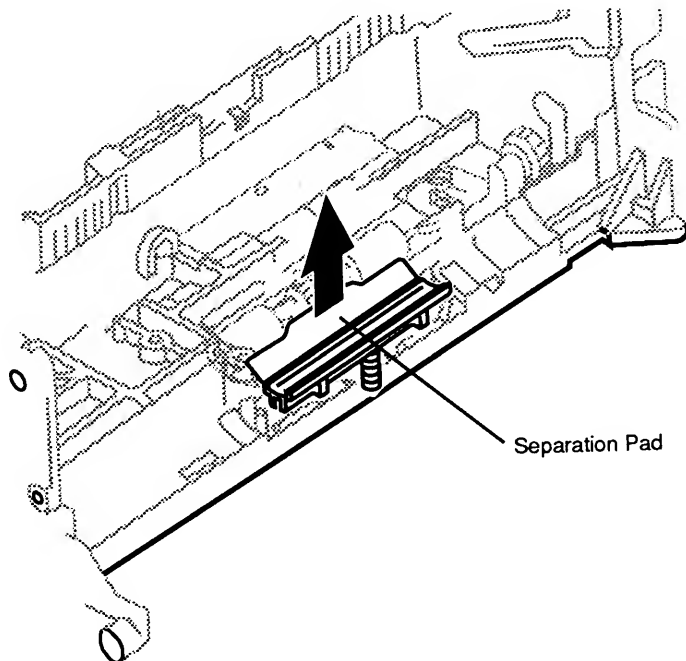

Figure 2-43 Separation Pad
1. Open the front access door. Place your thumb on the separation pad and grasp the clear plastic tab with your fingers (**Figure 2-43**).
2. Press down firmly on the pad and pull the plastic tab straight up to remove the separation pad (**Figure 2-43**).